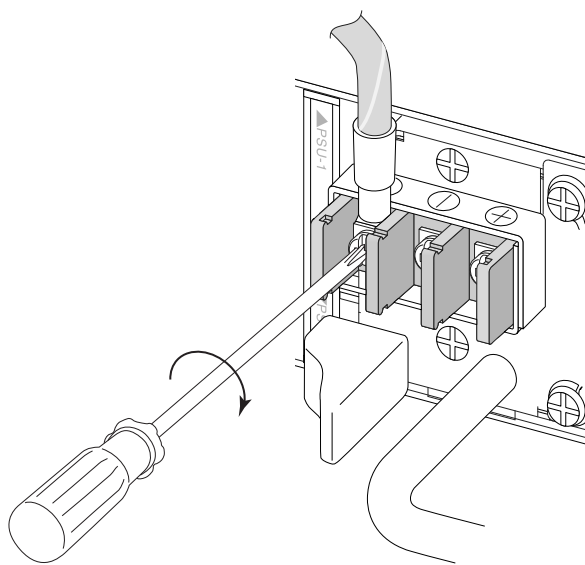

Figure 186: Securing the Ground Wire
- c. Tighten the screw to 7 in-lb (0.79 N m) as shown in Figure 186.